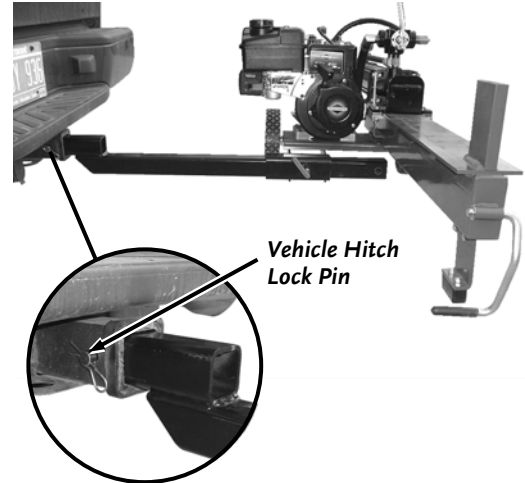

Figure 43
- Pick up your Wood Splitter up and slide the unit forward into the Vehicle Hitch until the Lock Pin holes line up (**Figure 43**). (Due to the weight, we recommend two people for this operation). Lock the Receiver Bar into position with your Vehicle Hitch Lock Pin.